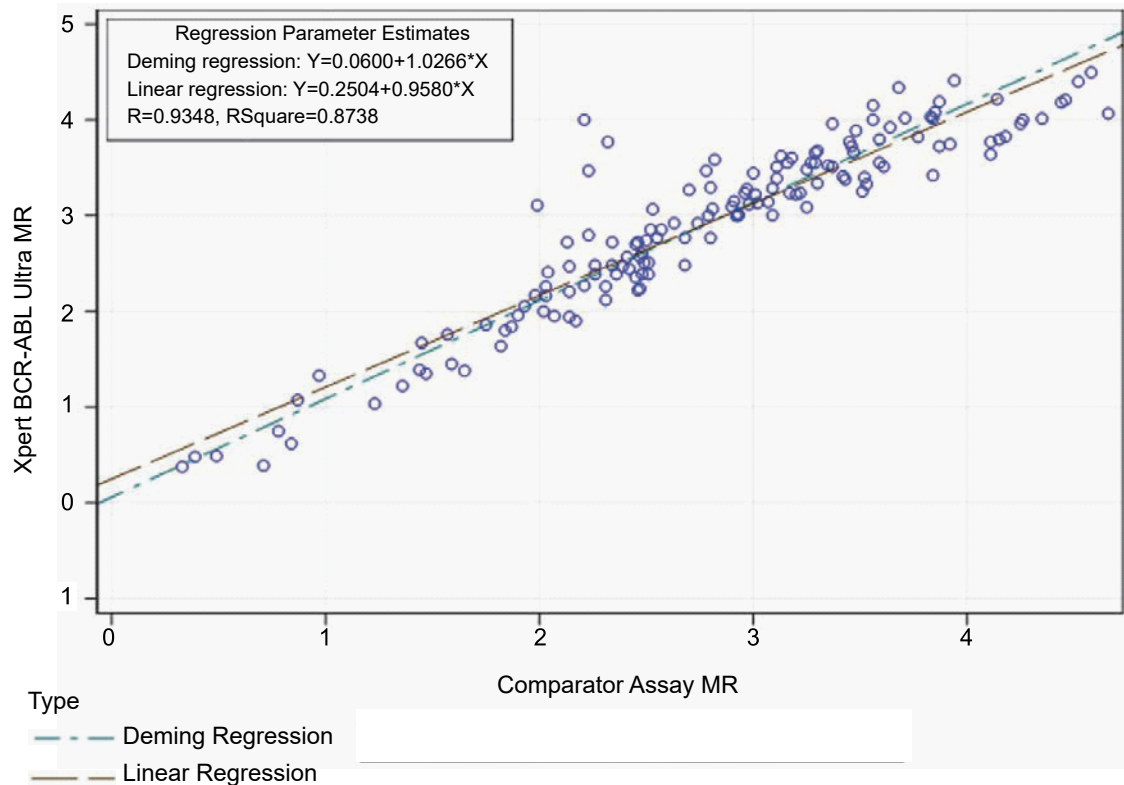

Figure 8. Deming and Linear Regression Analyses
Of the 208 results that were available for analysis, 147 had results that were within the quantitative reportable range for both assays [0.0030% - 55% (IS)/MR4.52 - MR0.26] for Xpert BCR-ABL Ultra and 0.0020% - 50% (IS)/MR4.72 - MR0.30 for the Comparator Assay]: 117 of which were from frozen left-over lysates and 30 of which were fresh prospectively collected specimens. The performance of the Xpert BCR-ABL Ultra test versus the Comparator Assay was evaluated using a Deming regression to determine the slope and intercept. Figure 8 shows the Deming regression and linear regression analysis of the 147 assay results (MR values).